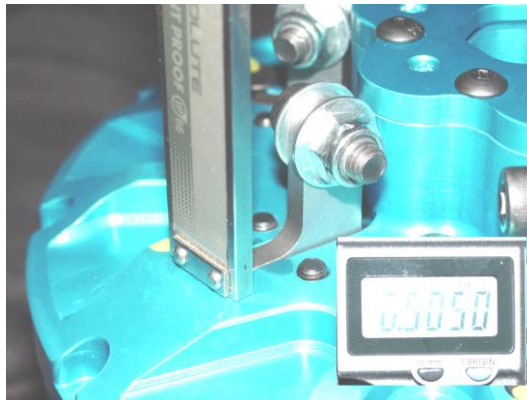

Fig. 1
- E. Place the hat assembly on the basket and tighten the twelve (12) allen head cap screws to secure it.
- F. After the hat assembly is attached, the air gap between the arms and the pressure plate buttons can be measured using the thin bottom section of a caliper. Stick the caliper rod into the slot opening just behind the arm (See Fig. 1) until it hits the top of the button on the pressure plate. Take a height reading to the top of the Gen II hat, this reading should be between 0.490"-0.510". This gives an air gap of 0.100"-0.120". It is better to start with an air gap of 0.100" to compensate for clutch wear. This technique can be used to maintain the air gap, after repeated runs, without removing any part of the clutch.